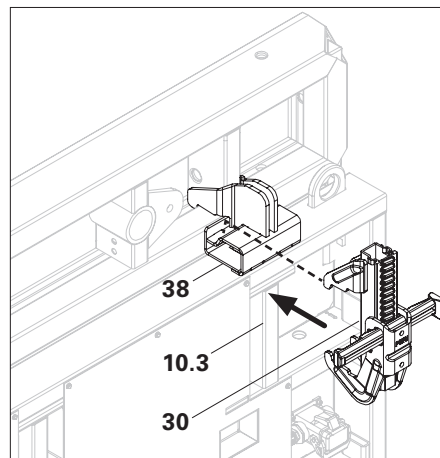

Fig. A3.13
2. Place Alignment Coupler BFD (30) on the panel strut (10.3) and Adaptor Connector MXH. (Fig. A3.13)